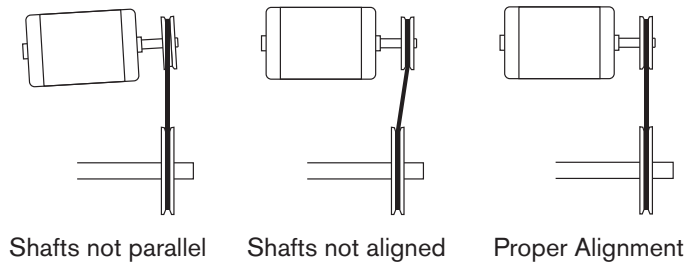

Figure 2
If the user is supplying the sheaves and/or belts, it is their responsibility to make the correct component selections for the specific operating conditions. Their selection must also **not allow** the blower to exceed its maximum safe speed or hub load. If you do not know the maximum safe speed or hub load for this blower, **do not** make any drive selection without first consulting Cincinnati Fan or the sales office for your area. Timing belts should never be used on blowers. If you are replacing belts and/or sheaves, checking belt tension or proper alignment refer to **Figure 2** and **Assembly Steps**. Sheave set screws or taper-lock bushing bolts should be tightened to the torque values as indicated in **Tables 1 and 2**.
The blower and motor shafts must be parallel and the sheaves must be in line with each other. See **Figure 2**.
6. Check the blower and motor shafts to make sure they are parallel and aligned as shown in **Figure 2**.